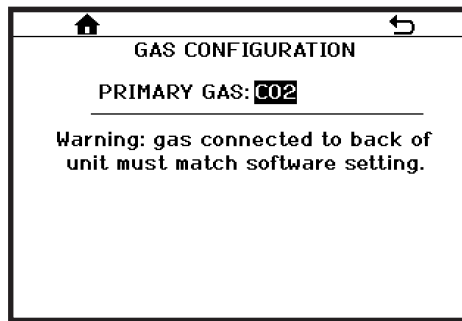

Figure 7.17
- **GAS CONFIGURATION:** Used to display and, based on dispenser model, select the gas that will be used in the dispenser (Figures 7.17 and 7.18).
- For standard dispensers with no multi-gas or multi-drink functionality (**Figure 7.17**) this menu displays the gas (CO2 or NITROGEN; determined by dispenser configuration) that is injected into the barrels and that operates the water pump and active charge system.